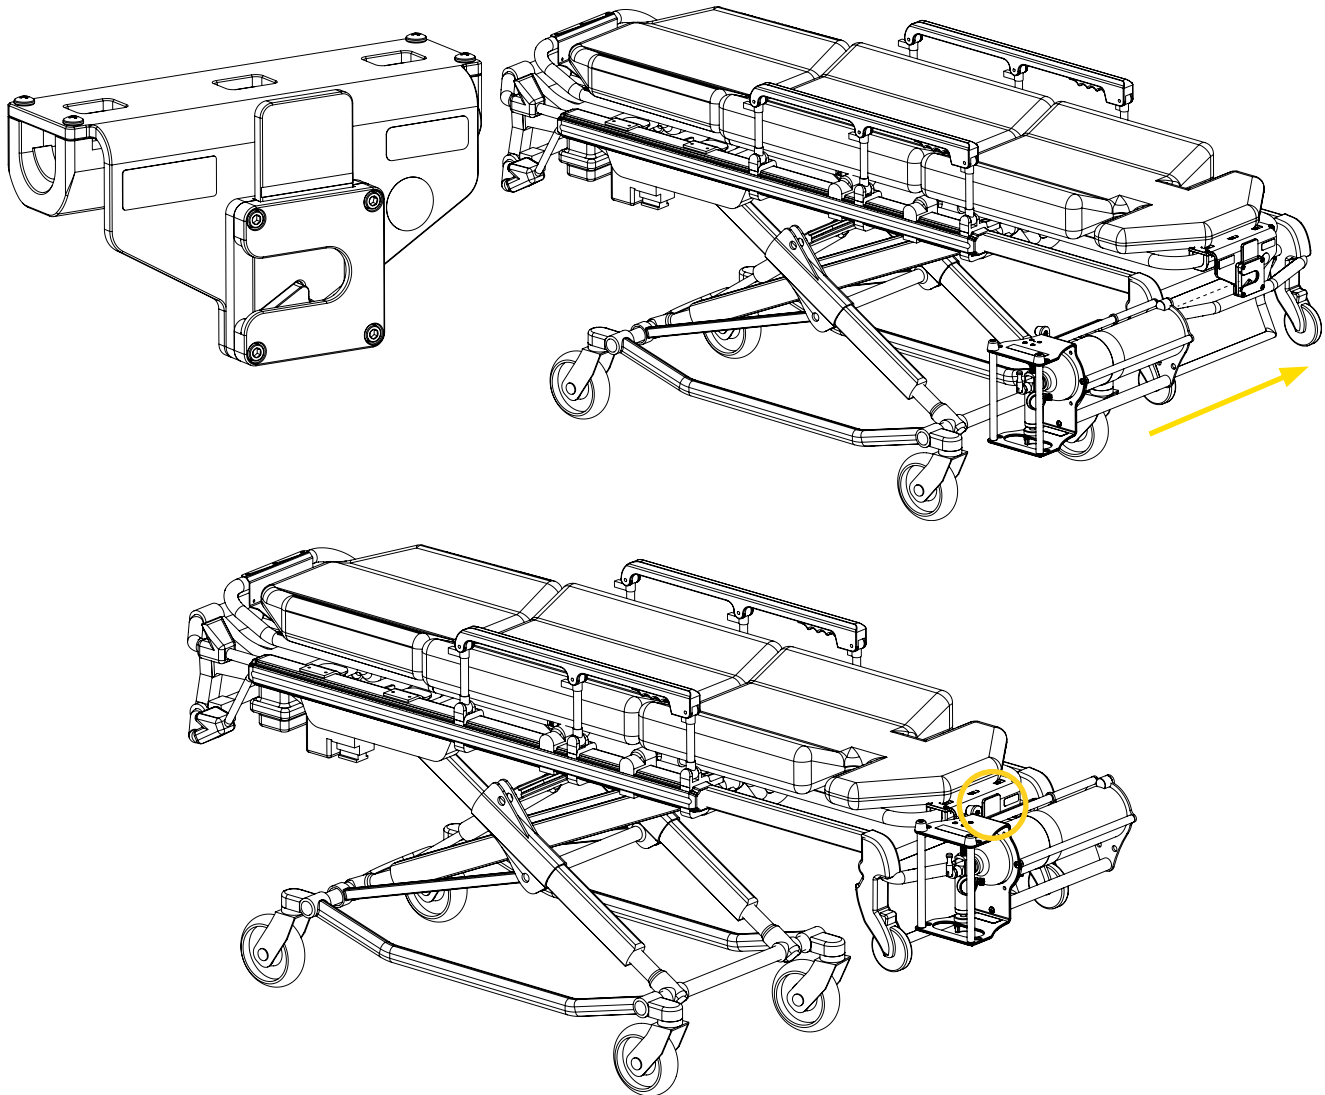

Figure 23: Quick release button upwards – bracket installed by the left and towards the right at patient head end of the stretcher
Installations at patient head end of the stretcher require using a Flex Sequor Stretcher Head End. The Flex Sequor Stretcher Head End is preinstalled in factory, and can only be installed on the stretcher one (1) way (Figure 23).